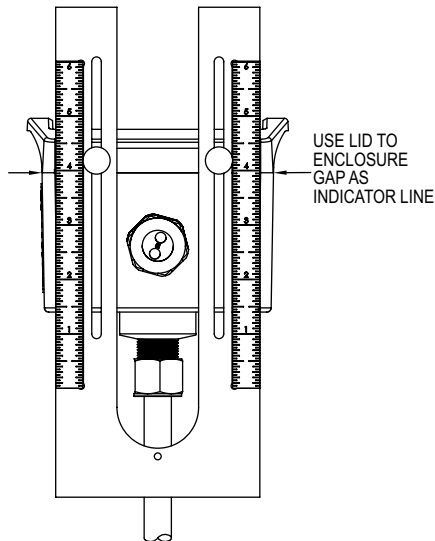

Figure 4
1. To prepare the meter for installation, mount the provided alignment scale to the side of the meter with the two provided thumbscrews. The thumbscrews are to be inserted through the alignment scale slots and into the holes in the side of the lid as shown in Figure 4, finger tighten only. Be sure to orient the alignment scale as shown in figure below. Actual scale setting determined in next step.
2. Locate the configuration tag attached to the Series IEF to identify the value of the alignment scale setting. Position the alignment scale such that the scale setting is lined-up with the seam of the enclosure as shown in Figure 4. Minor scale marks are in 1/20ths. Securely tighten the thumbscrews.